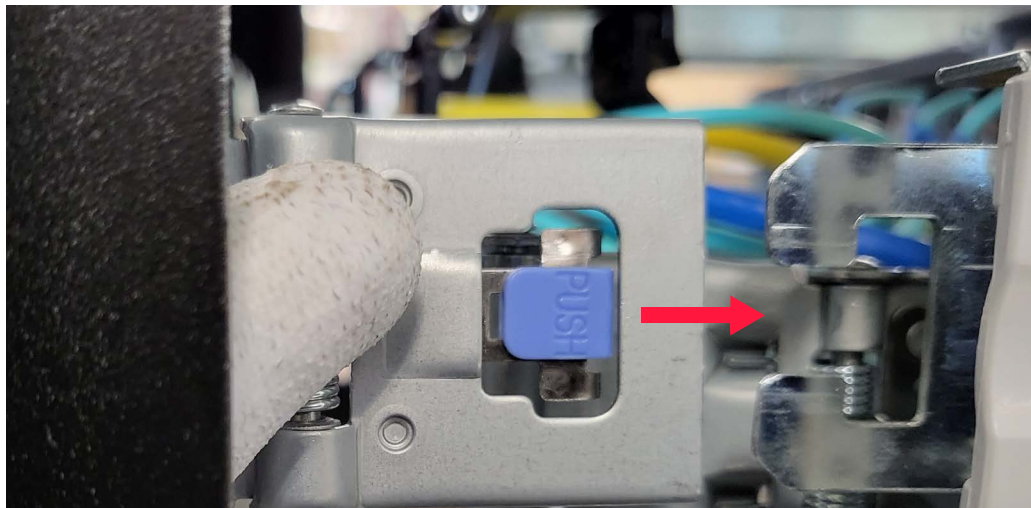

Figure 8.35 Aligning outer CMA arm connector and outer arm rail connector
4. Align the outer CMA arm connector with the outer CMA arm rail connector, as shown in Figure 8.35.